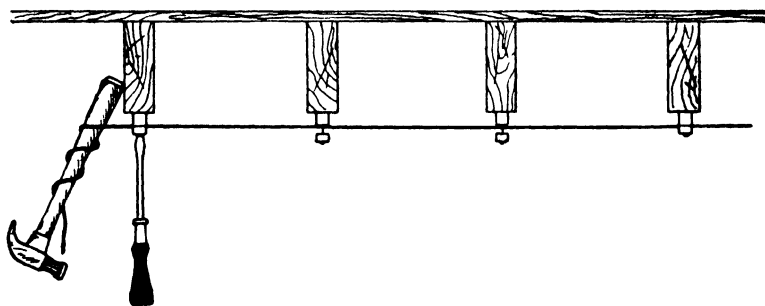

Fig. 45. Method of Taking Up Slack in Small Conductors
**Stringing Wires.** A good method of stringing wires on porcelain supports is to first fasten both or all three conductors to a double row of supports on one end of the line, then string the conductors along the floor joists to the other end of the run and there install the last cleat or knob. If the wires are small, take one or two turns around the handle of a hammer or bar, as shown in Fig. 45, which will give good leverage. When the wires are drawn taut, fasten